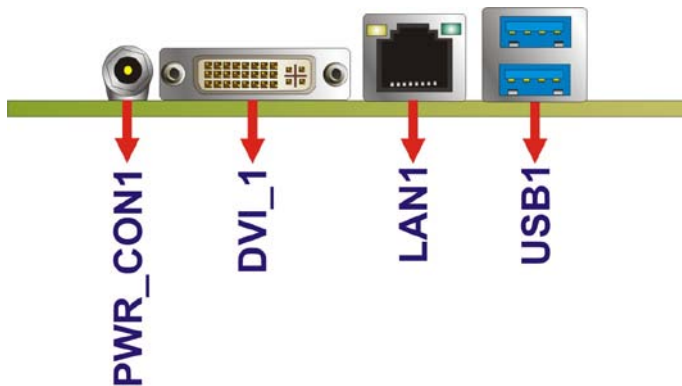

Figure 3-21: External Peripheral Interface Connector
Figure 3-21 shows the HYPER-KBN external peripheral interface connector (EPIC) panel.
- CN Location: See **Figure 3-21**
CN Location: See **Figure 3-21**